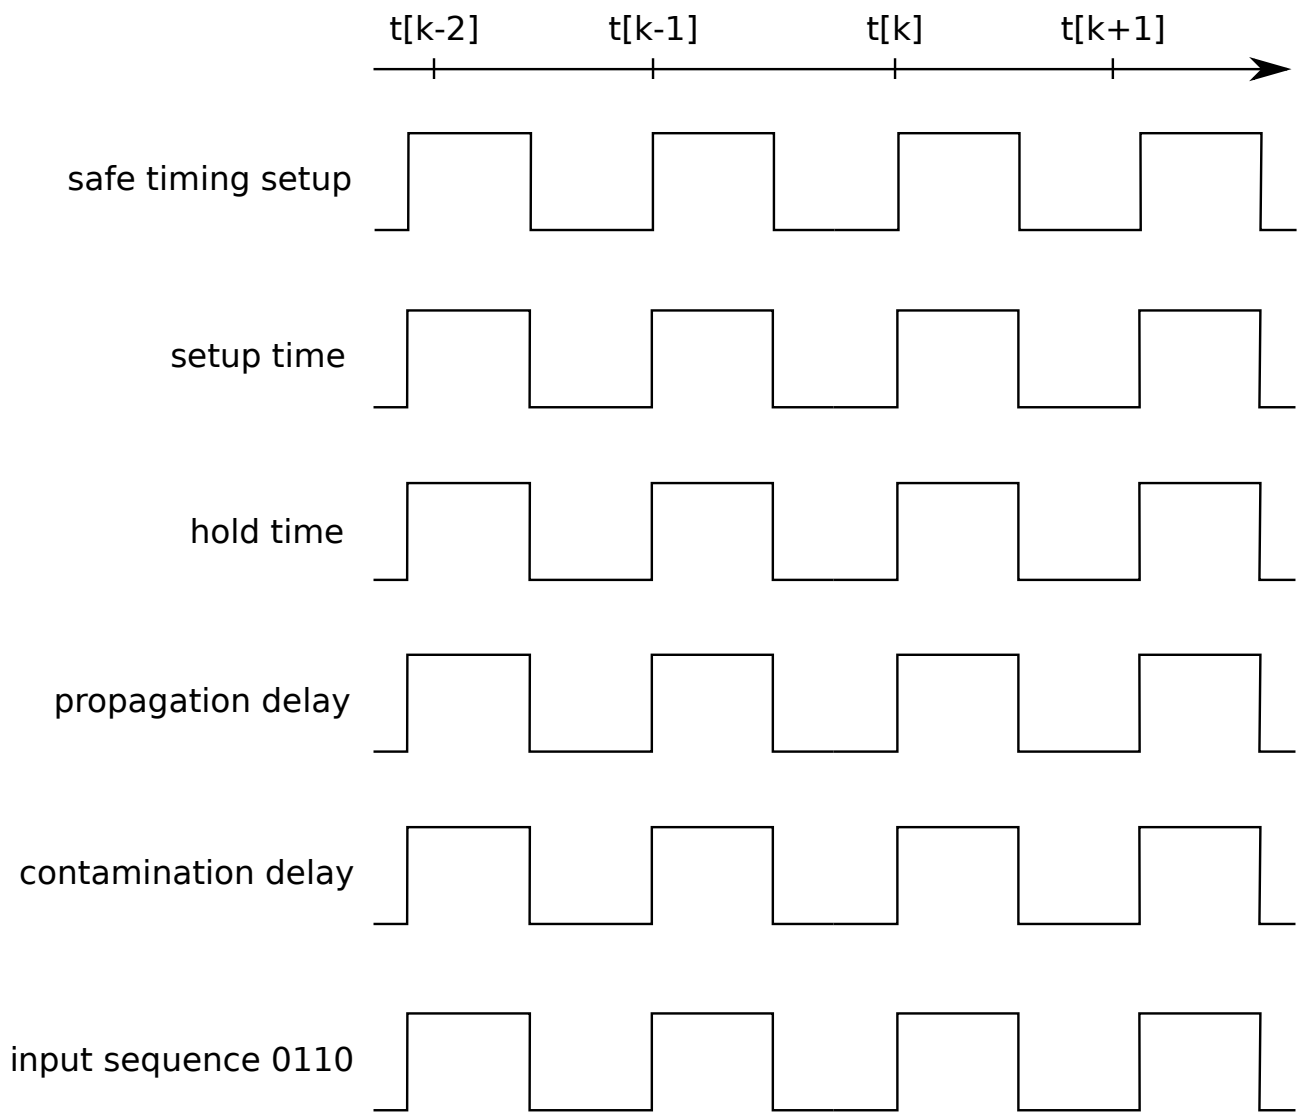

Figure 1: Timing events for IO timing tests.
- Lets start with a safe setup. Draw in Figure 1 the timing events for input pins and output pins for cycle k .
- How can we now find the setup time? In Figure 1 draw the application and test events. Draw the event and indicate the range in which the parameter is swept.
- Now draw in Figure 1 the input signal for the pattern sequence 01100 and the according test time.